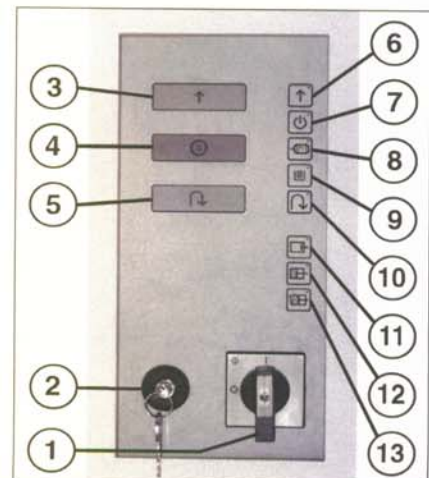

fig. 6
- Unlock the key switch (2) (fig. 6) and operate the „cutter forwards“ pushbutton (3).
USING THE SHREDDER (Fig. 6):
OPERATING ELEMENTS (Fig. 6, 7 und 8):
1 = Mains switch (emergency stop) (fig. 6)
2 = Key switch (fig. 6)
3 = „Cutter forwards“ pushbutton (fig. 6)
4 = „Stop cutter“ pushbutton (fig. 6)
5 = „Cutter reverse“ pushbutton (fig. 6)
6 = „Cutter forwards“ indicator light (fig. 6)
7 = „Ready“ indicator light (fig. 6)
8 = „Malfunction - motor“ indicator light (fig. 6)
9 = „Outlet jam“ indicator light (fig. 6)
10 = „Cutter reverse“ indicator light (fig. 6)
11 = „Ram at rear“ indicator light (fig. 6)
13 = „Baler open“ indicator lamp (fig. 6)